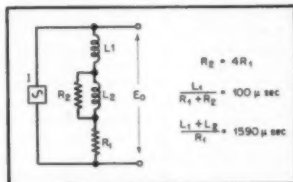
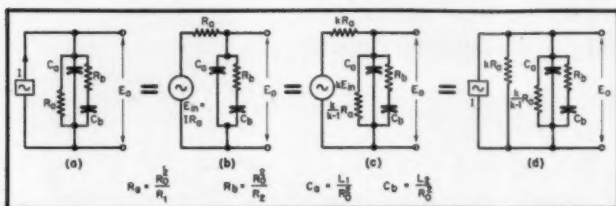
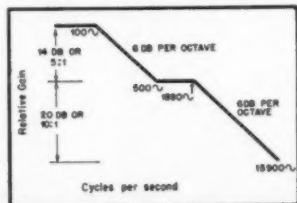

Fig. 5. Columbia LP pre-emphasis network.
Fig. 6. Playback network for LP records.
Fig. 7. Asymptotes to LP playback curve.
The frequency response curve we intend to create is that derived from the inverse of the Columbia preemphasis network¹ in Fig. 5. Its inverse with respect to an arbitrary resistance R_a is shown at (A) in Fig. 6 together with three equivalent circuits having the same response. Figure 7 shows the straight-line approximation to the playback response curve.
back at all frequencies the gain would be simply Z_L/Z_1 and we could get the required response by making Z_L the network of (A), Fig. 6. In this case we intend to use only about 6 db of voltage feedback at low frequencies and so the network will have to be modified. We shall see that the response obtained with a limited amount of feedback is the same as that obtained with infinite feedback when a resistance is shunted across Z_L . This effective shunt resistance may be
Next we proceed to reduce the complete stage, which can now be drawn as at (A), Fig. 3, to its approximate equivalent, (E). Comparing (E) of Fig. 3 and (D) of Fig. 6, we see that they can have the same frequency response if Z_1 is a resistor and Z_s is a four-element resistance-capacitance network. If for the moment we disregard the factor $[Z_s/A_1 Z_1]$ (E) of Fig. 3, which simply determines the impedance level of the entire circuit without affecting the open-circuit response, we see that the gain-versus-frequency is directly proportional to the combined impedance of Z_s in parallel with the resistor $(A_1 + 1)Z_1$.
To determine the loading and direct feed-through we examine the response curve, Fig. 7, and find the minimum value that $Z_1 + Z_s$ can reach within the audible range. Since we have decided that the gain reduction at low frequencies is to be 6 db, this means that at 15,900 cps the gain will be down 34 db more or only 0.31. At this frequency and above, Z_s has become so small that the
The effective parallel resistance $(A_i+1)Z_i$ across Z_i is now identified with the resistance KR_a of (D), Fig. 6. It is convenient to set this value at 12 megohms, making Z_i equal 374,000 ohms. Since we want to have 6.02 db of gain reduction at extreme low frequencies, amounting to 5.80 db feedback and 0.22 db loss due to input voltage division between Z_i and (Z_i+Z_o) , Z_i must be just half its no-feedback value, or 6 megohms. This means that Z_i , which approaches the resistance $KR_a/(K-1)$ at low frequencies, must be 12 megohms. Putting together the relationships $KR_a = 12$ megohms and $KR_a/(K-1) = 12$ megohms determines the value of R_a as 6 megohms. The remainder of the network can be found from the relationships in Fig. 5 and (A) of Fig. 6.